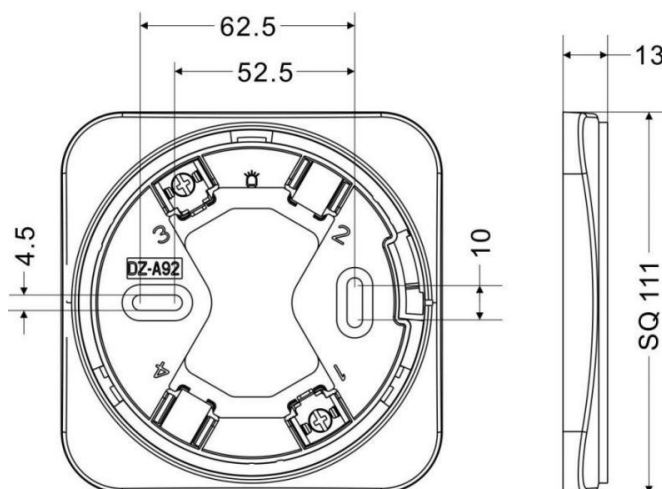

Fig.5
- 6.1** The installation of the audible and visual alarm requires a matching base, as shown in Fig.5, model DZ-A92. The external size is 111mm × 13mm (side length × thickness), the diameter of the fixed hole is 4.5mm, and the spacing of the fixed hole is 52.5mm ~ 62.5mm.
- a. Secure the base to the specified position using two M4 screws through the installation and fixing holes shown in Fig.5 according to the construction drawings. Ensure that the base is securely installed.